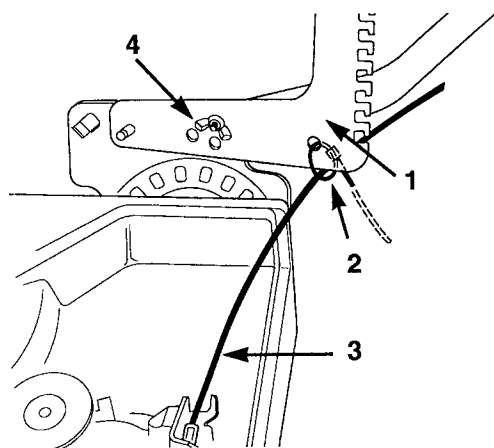

Figure 71
10. Remove the wing nut and lock washer holding the handle against the right-hand handle bracket (Fig. 71). Mount the remaining L-shaped bracket and handle on the handle bracket with the original carriage bolt, lock washer, and wing nut.
11. Secure the shift cable to the hole in the right-hand L-shaped bracket, using the plastic cable tie (Fig. 71). Cut off the excess cable tie, leaving about 1/4 inch extending.